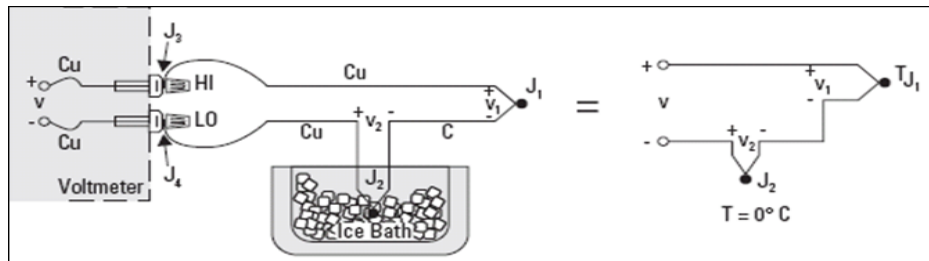

Figure 3-4 Thermocouple setup with its ice bath and equivalent circuit
- 6 Prepare the thermocouple setup with its ice bath as shown in Figure 3-4 below.